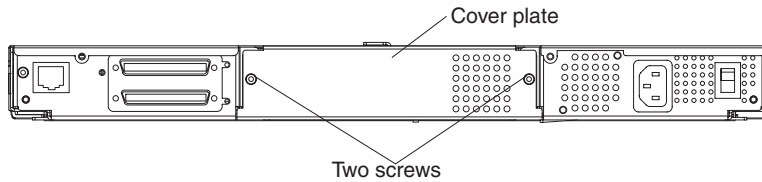

Figure 20. Removing the tape drive cover plate
- Using a #1 Phillips screwdriver, remove the two screws that secure the cover plate (see Figure 20). Set the cover plate and screws aside.